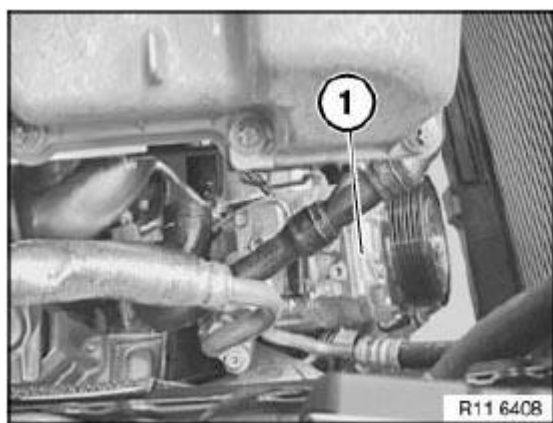

Fig. 2: Identifying Air Conditioning Compressor
Release air-conditioning compressor (1) and set down on front axle carrier. See Fig. 2.